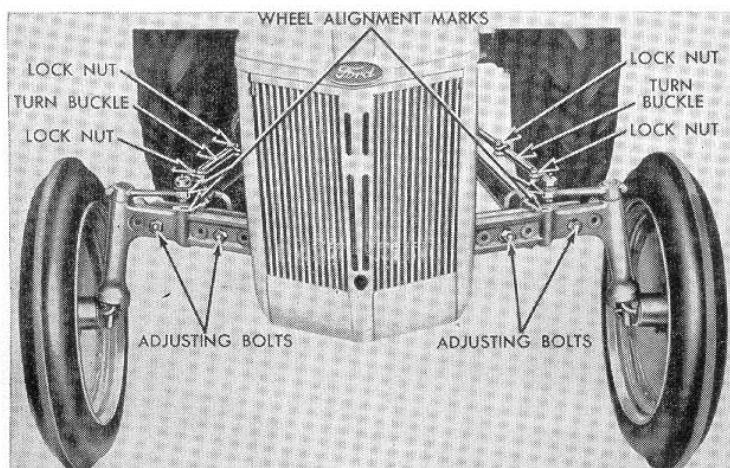

Fig. FO1—Front axle as used on model 8N. Note hole spacing of tread adjusting bolts.
1. The front axle is constructed in three sections and may be adjusted to vary tread width. See Figs. FO1 and FO2. Steering linkage must be readjusted on model 8N when tread width is changed, model 2N-9N wheel alignment is not affected by tread width adjustment.